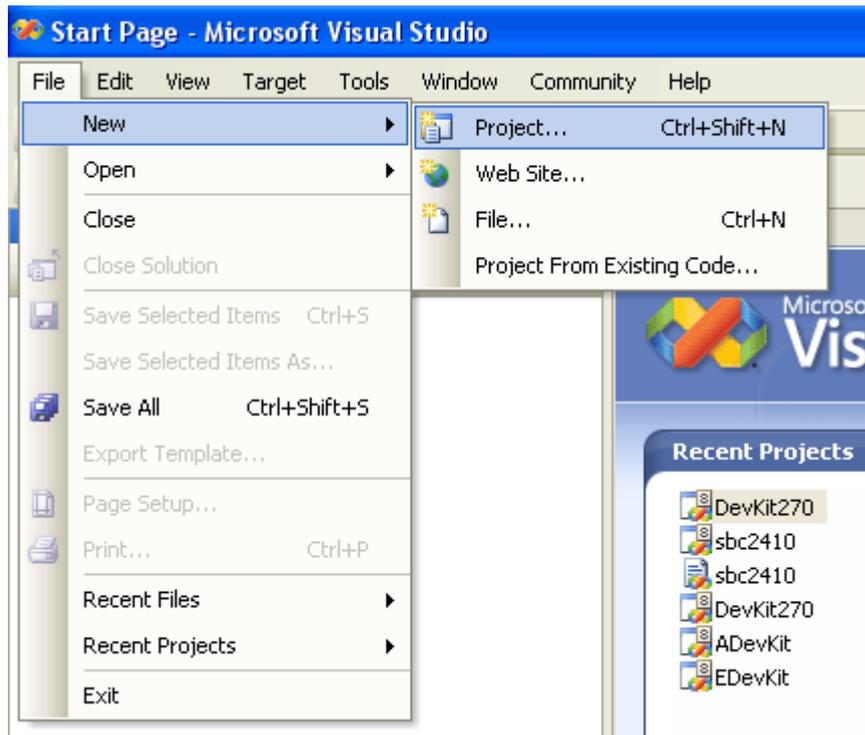

Figure 6.1
1. Open Visual Studio 2005, click File->New->Project, see Figure 6.1 below: